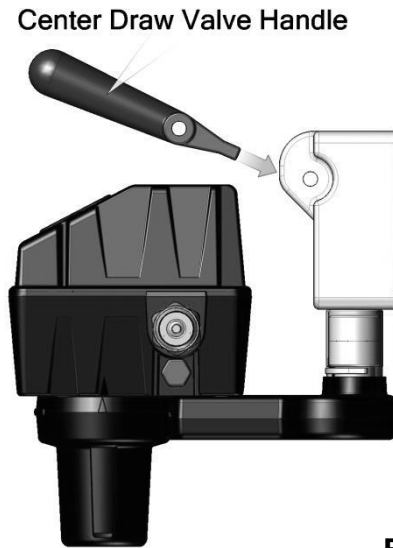

FIG.1.2
2.) With Pro-control module in position **FIG.1.2**, reinstall Center Draw Valve Handle.